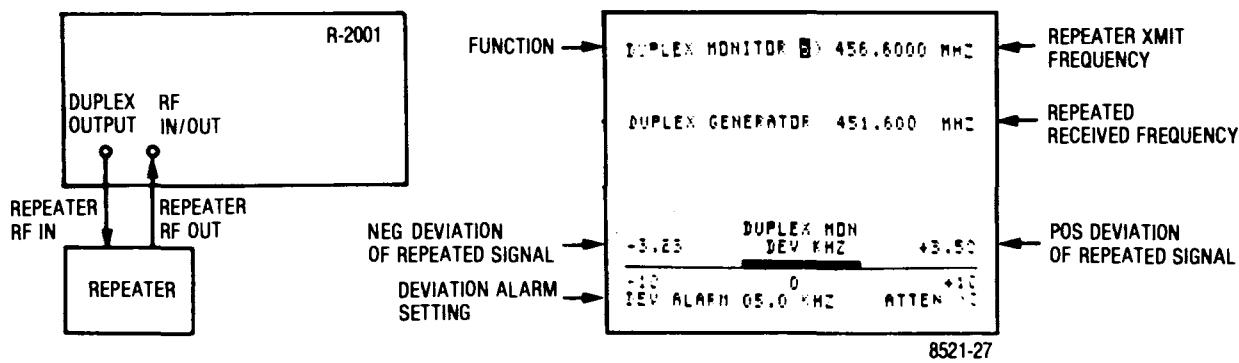

Figure 4-5. Duplex Generation Test Setup and CRT Display
**4-9. DUPLEX GENERATION.** When operating in the duplex generate mode the offset frequency can be set to either 45 MHz or 0 to 10 MHz (adjustable). The Image/Dplx switch sets the offset frequency above (high) or below (low) the monitored frequency. When offset is in the 0 to 10 MHz range, the control range may include a foldback region. If the generator is operated in this foldback area erroneous frequency output indications can be given. Avoid areas where backward indication or a jittering display of the offset frequency are incurred. The following is an example of the duplex generator being used to setup repeater levels (Figure 4-5).